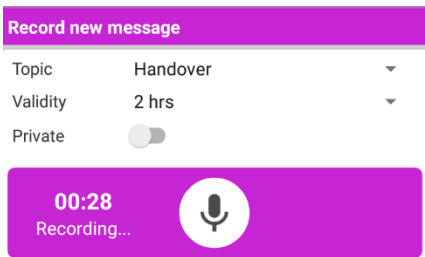

Fig 119
- keep pressed the button  as indicated in Fig 119: